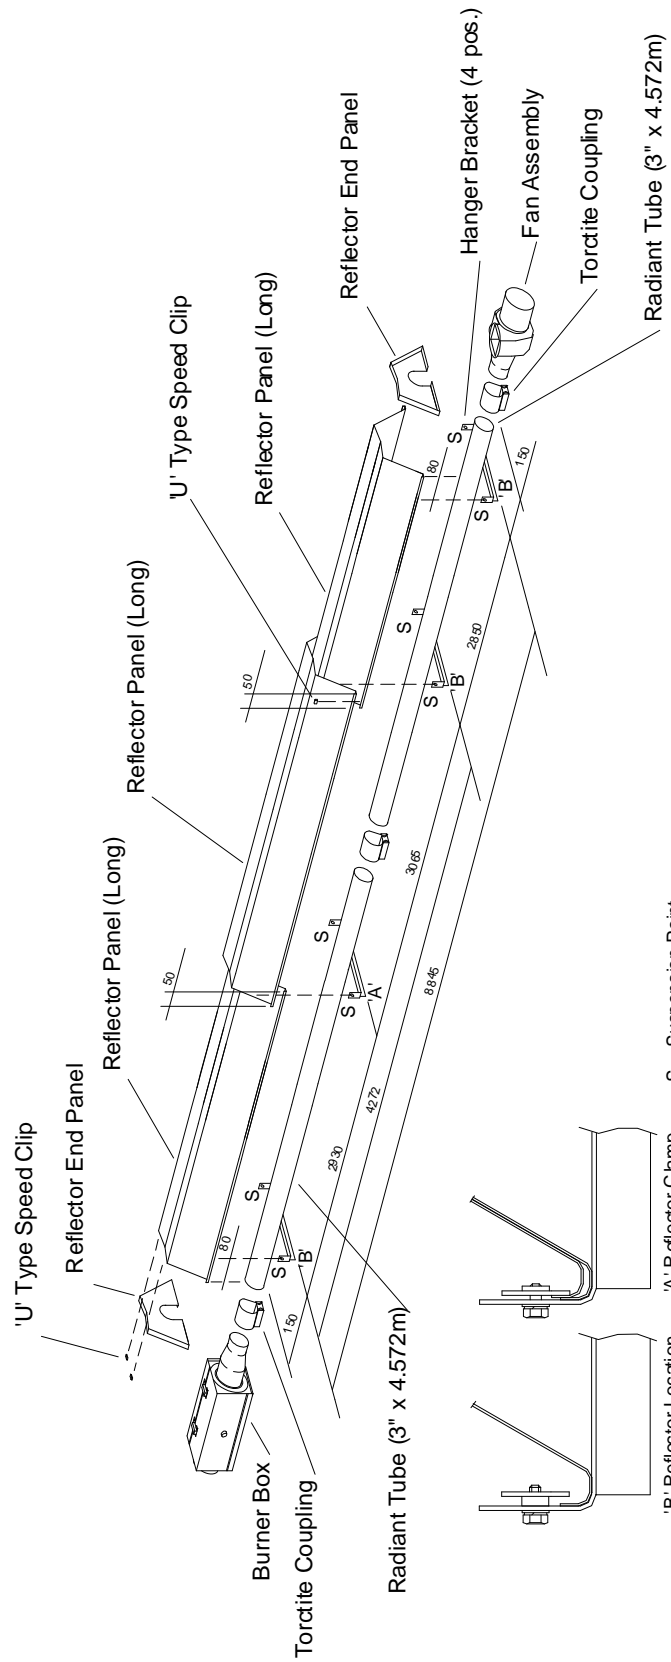

Fig. 21
- 4.6.2 Place the Radiant Tubes on trestles, providing 150mm minimum clearance above the floor and assemble the four Hanger Brackets to the Radiant Tubes using one U bolt per bracket (from fastenings pack) and position along the Radiant Tubes as shown in Fig. 21. Ensure that the welded seam of the tubes is in contact with the Hanger Bracket i.e. facing away from the reflector. Tighten the nuts sufficiently to retain the Hanger Brackets. Do not overtighten.
- 4.6.5 The two sections of the appliance should now be raised and suspended from previously fixed chains or drop rods as detailed in Section 3.1, at suspension points indicated in Fig. 21. Rope or webbing should be used when lifting from above. If using a forklift to position the appliance sections, ensure that they are balanced on the forks prior to lifting.
- 4.6.6 Place the third Torctite Coupling over the open end of one Radiant Tube ensuring that it engages fully, up to the stop. Assemble the second Radiant Tube into the Torctite Coupling ensuring that it engages fully, up to the stop, with the Hanger Brackets aligned with those of the first Radiant Tube section (see Fig. 21). Tighten the nuts of the Torctite Coupling to secure the two sections of Radiant Tube to one another, taking care to maintain the tubes in a straight line.
- 4.6.7 Place two of the Reflector Panels onto the Hanger Brackets and position their outer edges such that they overhang the outer Hanger Bracket by 80mm (see Fig. 21). Place the third Reflector Panel over the two previously positioned Reflector Panels to provide a 50mm overlap at each end. Clamp the first and second Reflector Panels, where they overlap, to the second Hanger Bracket, (from Control Box) using two retainers and M6 setscrews and washers (fastenings pack). Secure the outer end of the centre Reflector Panel to the Reflector Panel at the Fan Assembly end of the appliance, using two 'U' type speed clips (from fastenings pack) as shown in Fig. 21. Screw the remaining (6) retainers to each of the other Hanger Brackets to provide **location** for the Reflector Panels as shown in Fig.21.
- 4.6.8 Position one Reflector End Panel over the Radiant Tube and into one end of the Reflector Panels with the End Panel flange flush with the end of the Reflector Panel. Secure the Reflector End Panel to the Reflector Panel by the use of six 'U' type speed clips provided (fastenings pack); 2 clips per facet of Reflector Panel, as shown in Fig. 21.